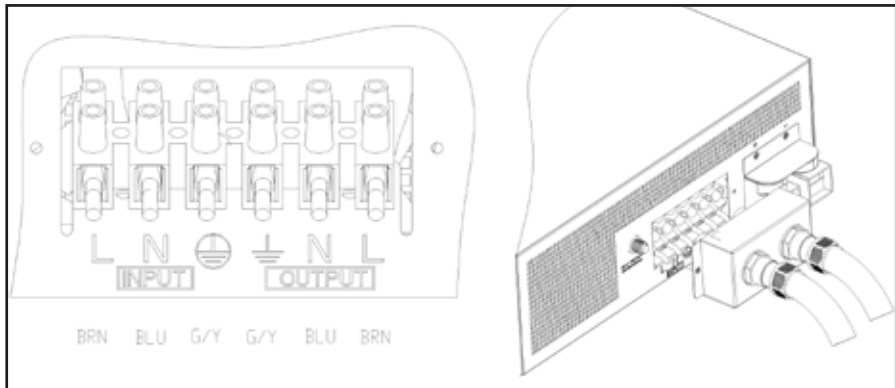

Figure 4 AC Cable Connections to unit
On the left of rear chassis is the AC hardwire cover (see fig 4). A six-station terminal block is provided to make the AC connections. The terminal block is used to hardwire the AC input, AC output, and Earth/ground. Electrical regulations require that an external disconnect switch be used in the AC input wiring circuit. The AC breakers (MCB) in a sub panel should in most cases satisfy this requirement and local regulations.*
Step 2- Feed the wires through cable clamp and AC cover. See Figure 4.
Step 3- Following the wiring guide located in the AC wiring compartment as in Figure 4, connect the GND (green/yellow), Line (brown), and neutral (blue) wires from the AC input (utility, generator, etc) to the terminal block.